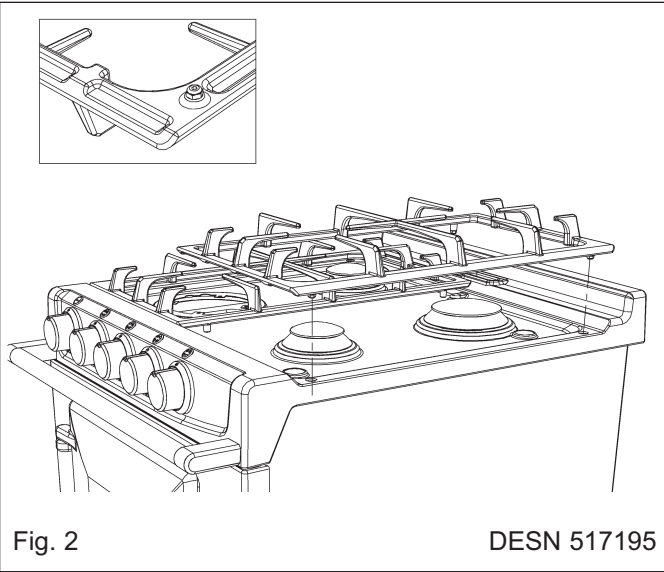

Fig. 1
- Place all pans centrally over the burners. The flames must be on the base of the pan. Do not allow the flames to go up the sides of the pan. (See Fig. 1).